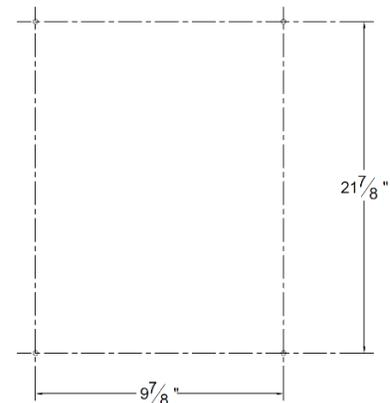

FIG.2
4. Mark location of the mounting holes on the surface to which unit is to be mounted, (see FIG.2 for hole pattern). Drill or punch holes that are sized for mounting hardware to be used.